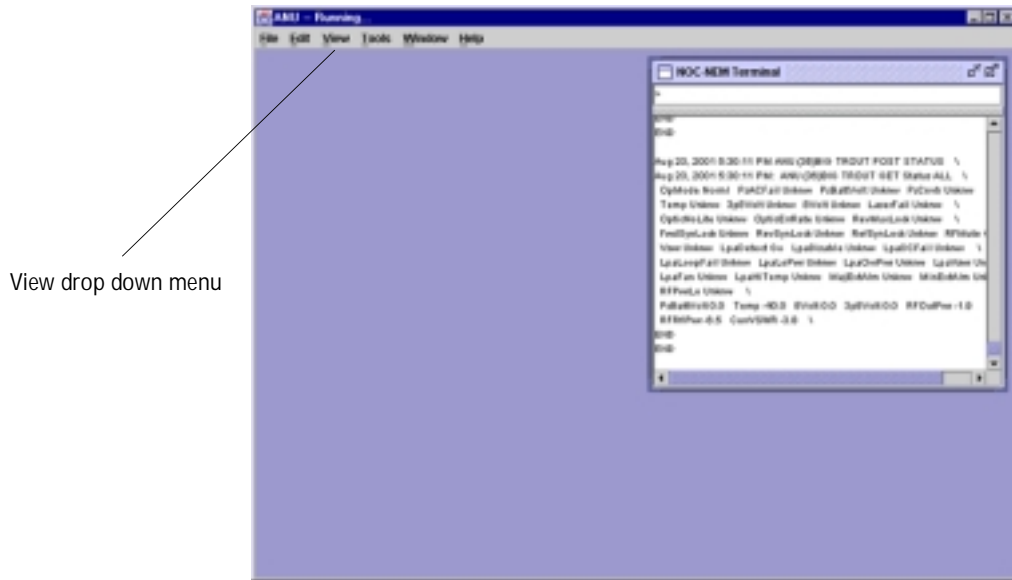

Figure 4-1. Digivance Element Management System Main Window
8. Start up the Digivance EMS software program. The EMS main window will open as shown in Figure 4-1. For complete information about the EMS software, refer to the Digivance Element Management System Software User Manual (ADCP-75-118).